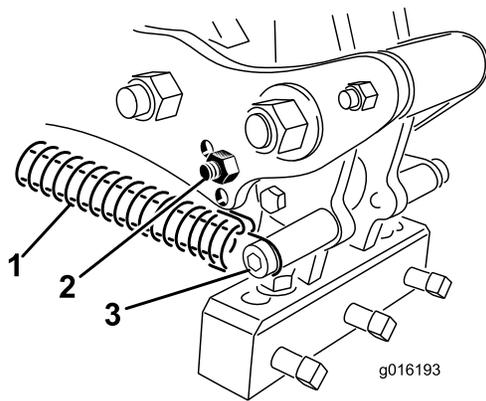

Figure 35
- Release the spring tension to the tine head (Figure 35).
- Remove the bumper bolt and bumper from the linkage arm and reinsert them into the other adjustment hole (Figure 35).